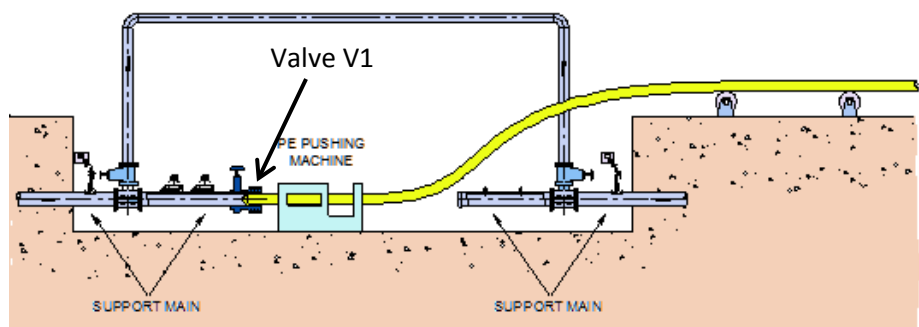

Figure 20- PE Insertion
- Alternatively, it can be positioned above the trench or on a slope leading into the launch excavation. (See Figure 20)
1. Insert the capped end into the gland until it meets Valve V1, plastic seal see Figure 20.